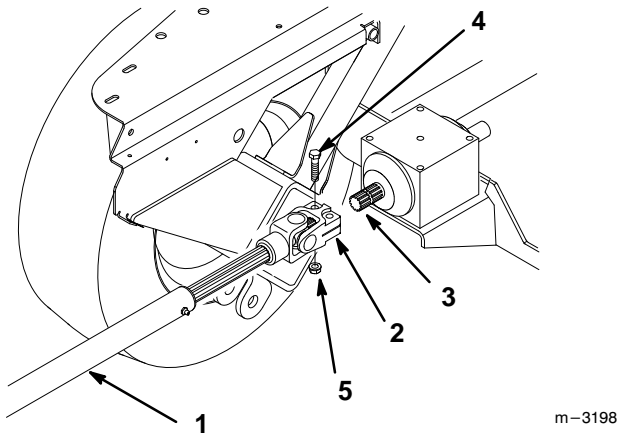

Figure 7
1. Secure universal joint to gearbox shaft with (2) 3/8"-16 x 1-5/8" (41.5 mm) bolts and 3/8"-16 locknuts (Fig. 7).
1. Remove (2) 3/8"-16 x 1-5/8" (41.5 mm) bolts and 3/8"-16 locknuts from universal joint and slide the driveshaft off gearbox shaft (Fig. 7).